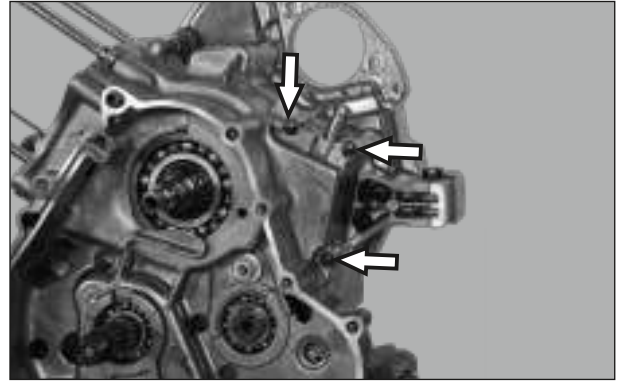

Fig. 3.128
- Fasten the crankcases with 3 nos. of Hexagonal flange bolt (M6x50) on crankcase R. (Fig. 3.128)